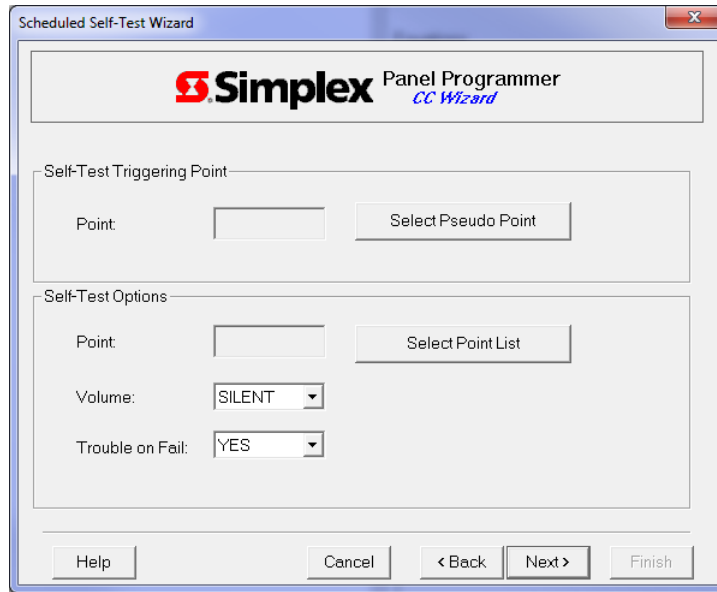

Figure 9-43. Self-Test Triggering Point and Point List
1. In **Self-Test Triggering Point**, click **Select Pseudo Point** to choose a pseudo point that will be used to activate Self-Test (Figure 9-43).